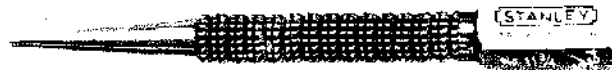

Fig. 11-27 Nail set.
2. Choose a suitable size nail set, figure 11-27. Use a size which does not enlarge the hole made by the head of the nail and yet is large enough to transmit the force of the blow effectively.